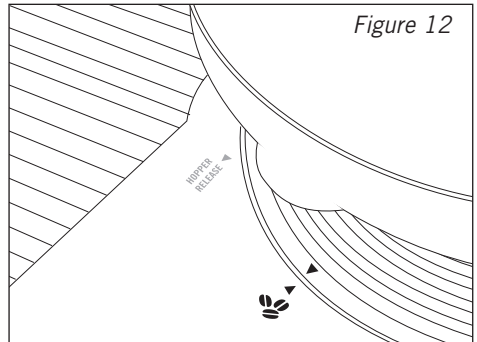

Figure 12
- Turn the hopper so that the arrow on the base of the hopper is aligned with the ☿ whole beans arrow and the brewing mechanism sets to the required function. See figure 12.